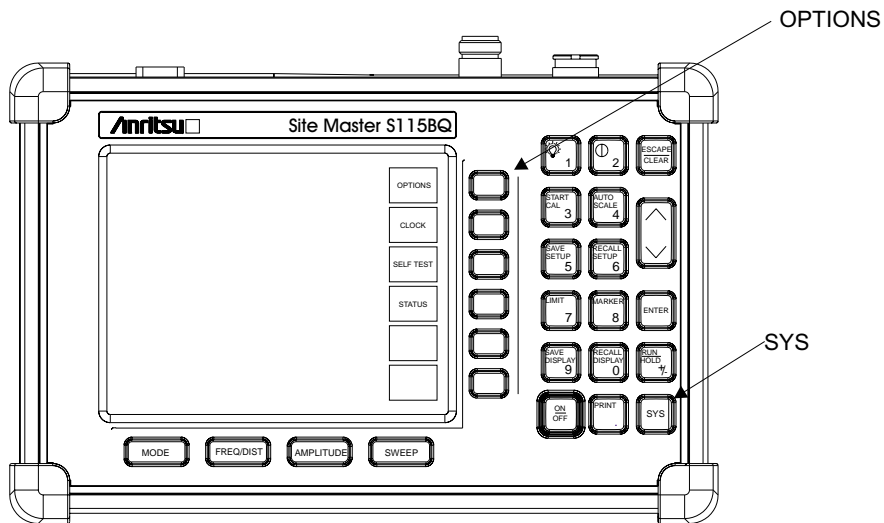

Figure 3-5. SYS Key and OPTIONS Soft Key
**Step 3.** Press the **SYS** key and the **OPTIONS** soft key (Figure 3-5).